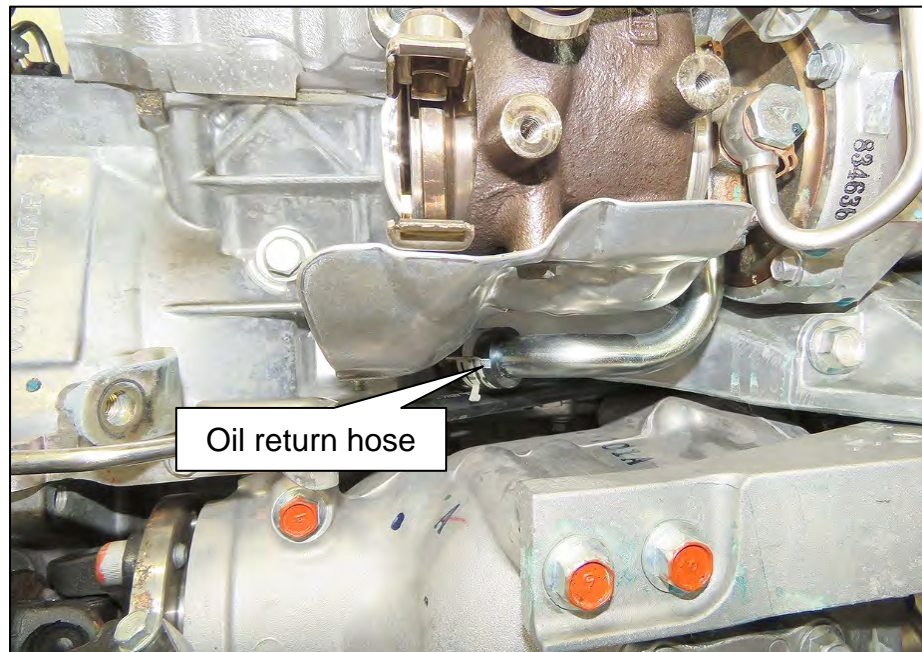

Figure 52
79. Release the spring clamp and disconnect the associated oil return hose shown in Figure 52.